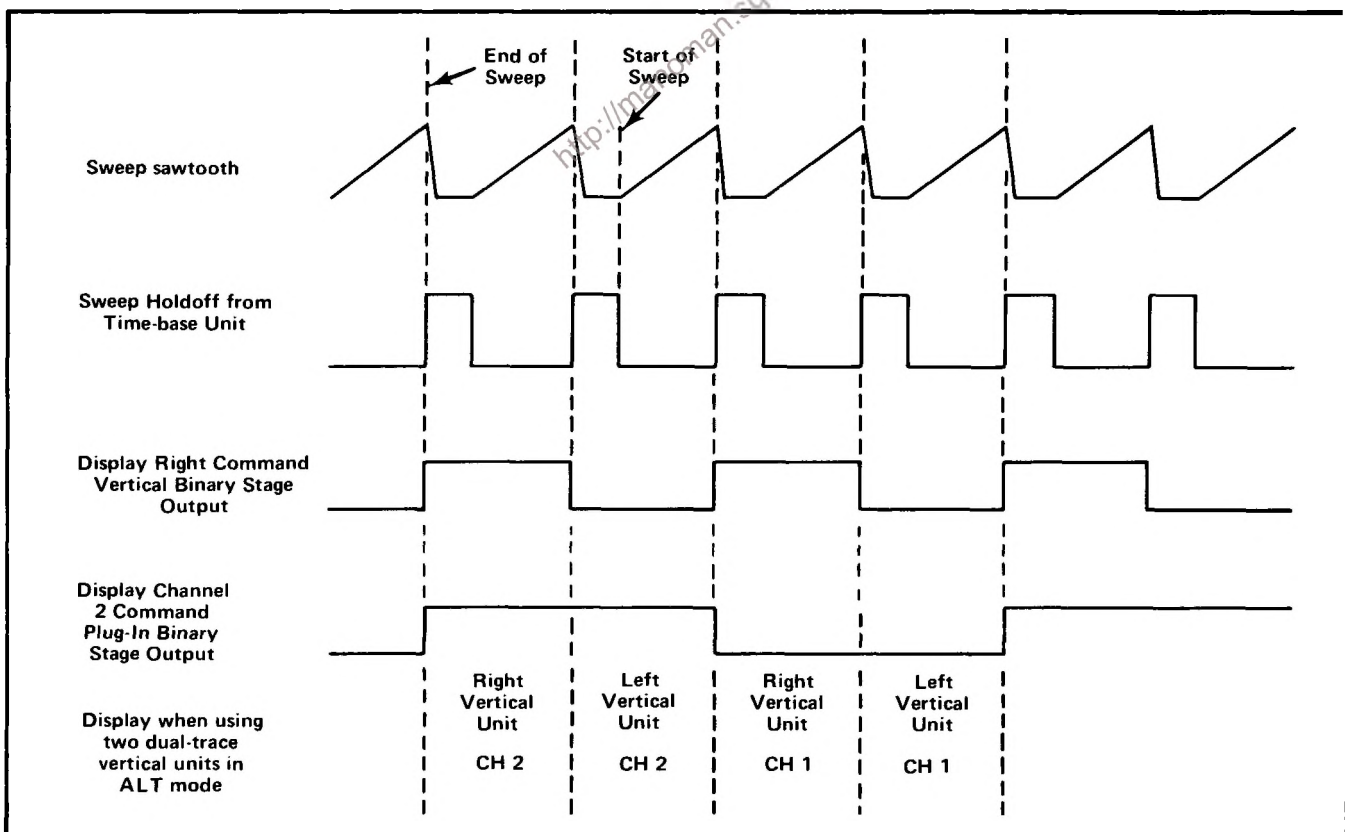
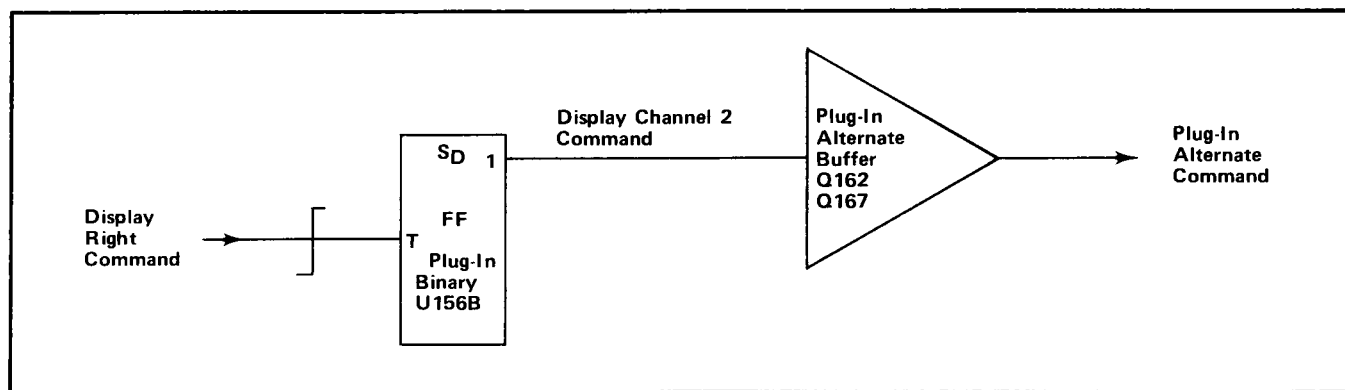

Fig. 4-11. Idealized waveforms showing relationship between input and output waveforms for Vertical Binary and Plug-In Binary stages when operating in ALT mode.
Fig. 4-12. Logic diagram of Plug-In Binary and Plug-In Alternate Buffer stages.
The operation of the Vertical Binary stage is controlled by the level of the ALT Mode line from the VERT MODE switch. When this switch is set to ALT, a HI level is connected to the emitter of Q150 through R152. This HI level disables Q150 so its collector remains HI. As a result, Q150 has no effect upon operation of the Vertical Binary stage and the direct-clear input of U156A remains HI so it does not affect the operation of U156A. Therefore, U156A operates as a basic triggered flip-flop which changes output states with each positive-going Sweep Holdoff pulse at the trigger (T) input. The Sweep Holdoff pulse goes positive at the end of each sweep. The signal at the "1" output of U156A switches between the HI and LO level at one-half the rate of the Sweep Holdoff signal from the horizontal plug-in unit. Fig. 4-11 shows the time relationship between the input and output signals for this stage, and gives the resultant display with each signal combination.
The Plug-In Binary stage consists of U156B, which is connected as a triggered flip-flop with direct-set input. The trigger input for this stage is the Display Right Command from the Vertical Binary stage. When the VERT MODE switch is set to ALT, the repetition rate of the Display Channel 2 Command output of this stage is one-fourth of the Sweep Holdoff input (see waveforms in Fig. 4-11). For any position of the VERT MODE switch except ALT, the repetition rate of the output signal from this stage is one-half of the Sweep Holdoff input. A logic diagram of the Plug-In Binary stage is shown in Fig. 4-12.